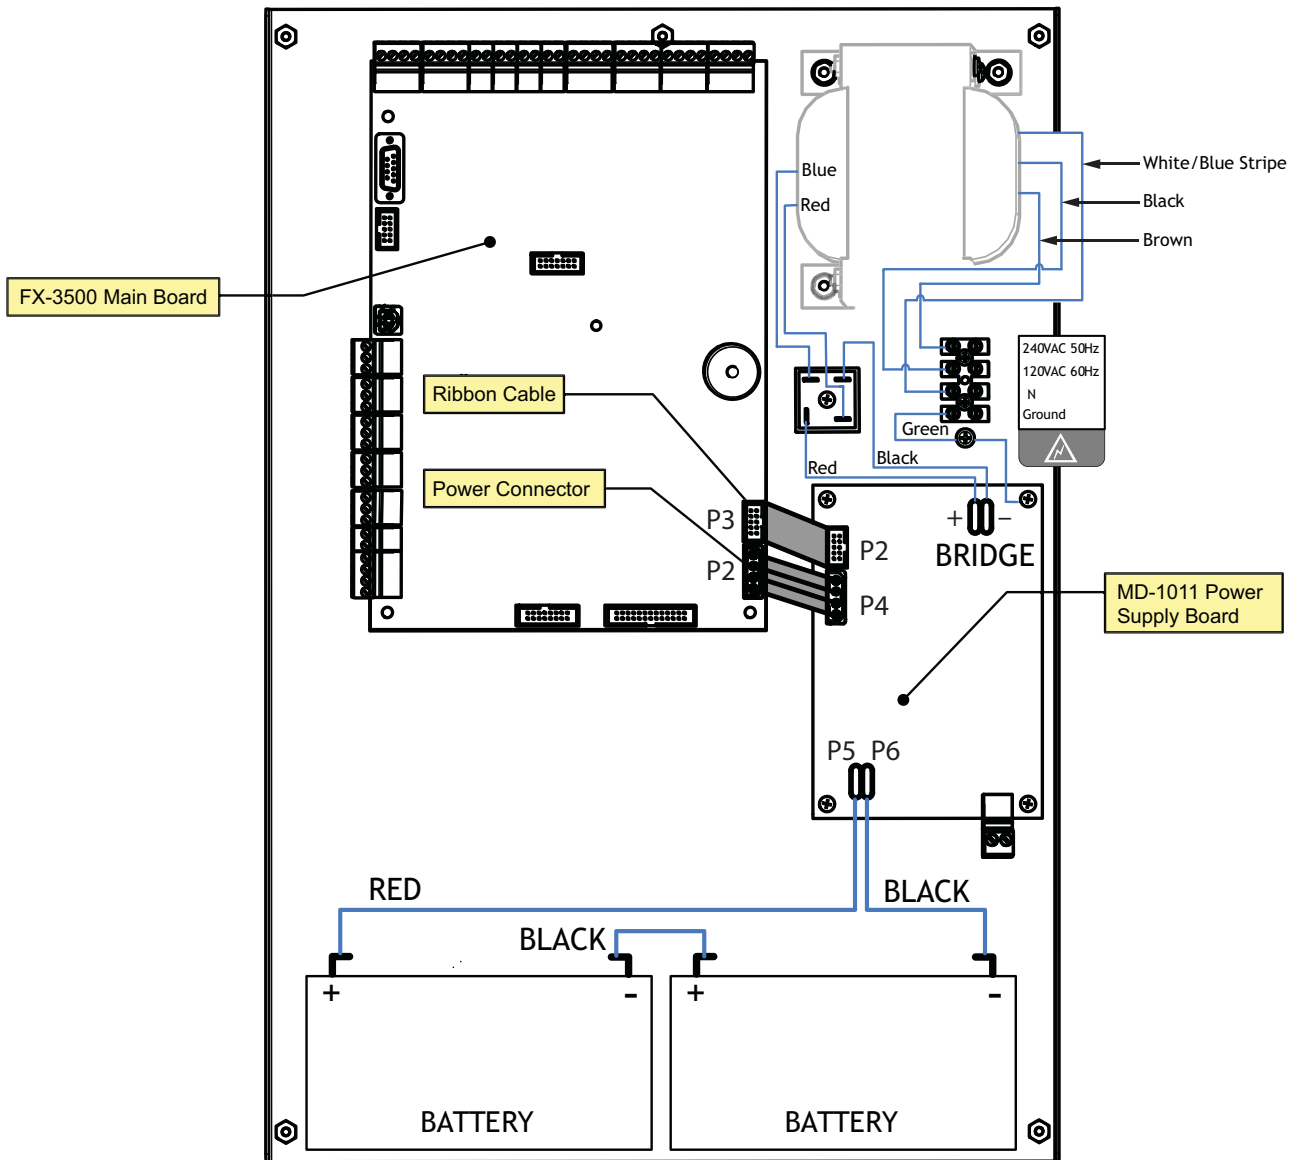

Figure 29 Main Power Supply Wiring and Connections
Wire the power supply as shown in Figure 29 and adhere to the following:
- Wire the AC power to the AC wiring terminals as shown in Figure 29 using the proper wire gauge with 600 volt insulation and proper over current circuit protection that complies with local codes.